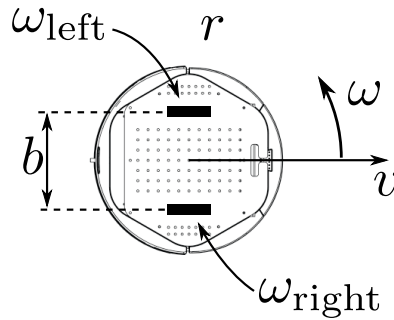

Figure 3: Differential drive model
- Q3 In practice it is often impossible to control a ground robot by sending (x, y, θ) velocities. A classical way to control such a robot is to send a setpoint with a linear velocity v and an angular velocity ω , expressed in the robot frame as shown in Fig. 3.
Q5 When a robot is equipped with two actuated wheels, a simple model is the differential drive model, as shown in Fig. 3. Assuming the two wheels have a radius r and are separated with a distance b , then the kinematic model yields: